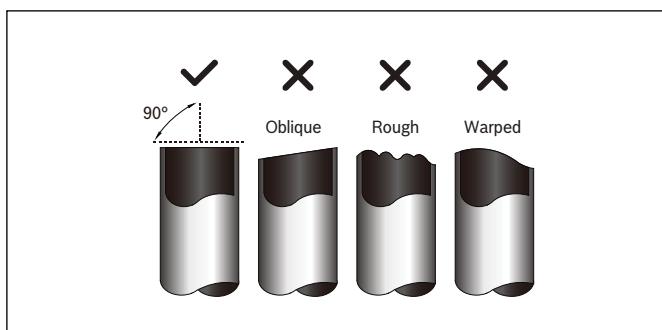

Figure 12
3. Make sure that the pipe is cut at a perfect 90° angle. Refer to Fig.12 for cut examples.